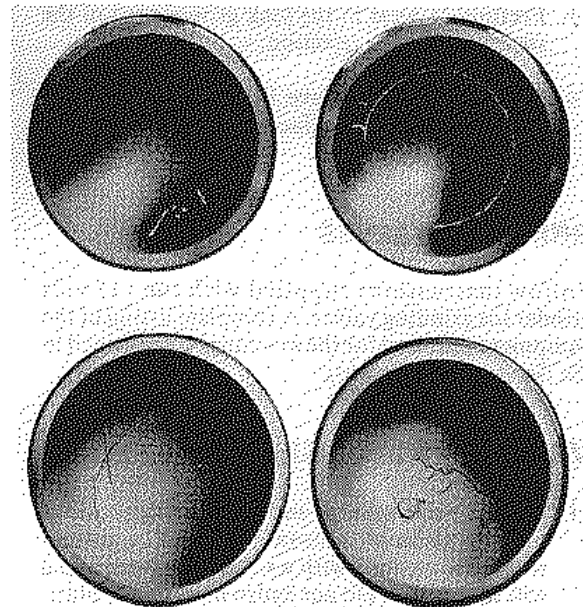

Fig.2-18-Cup Defects
1. Indications found in the cup area, Fig. 2-18, are defects which require rejection of a valve.